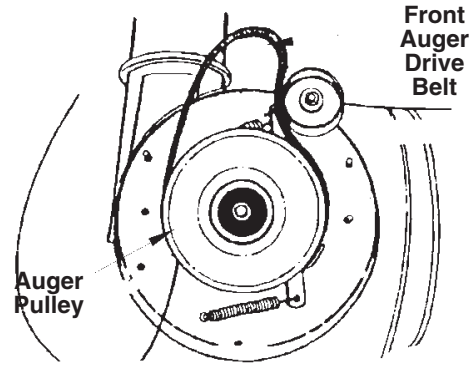

FIGURE 8.
4. To remove the front auger drive belt, push the idler pulley to the left, and lift front auger drive belt from the front auger pulley. See figure 8.